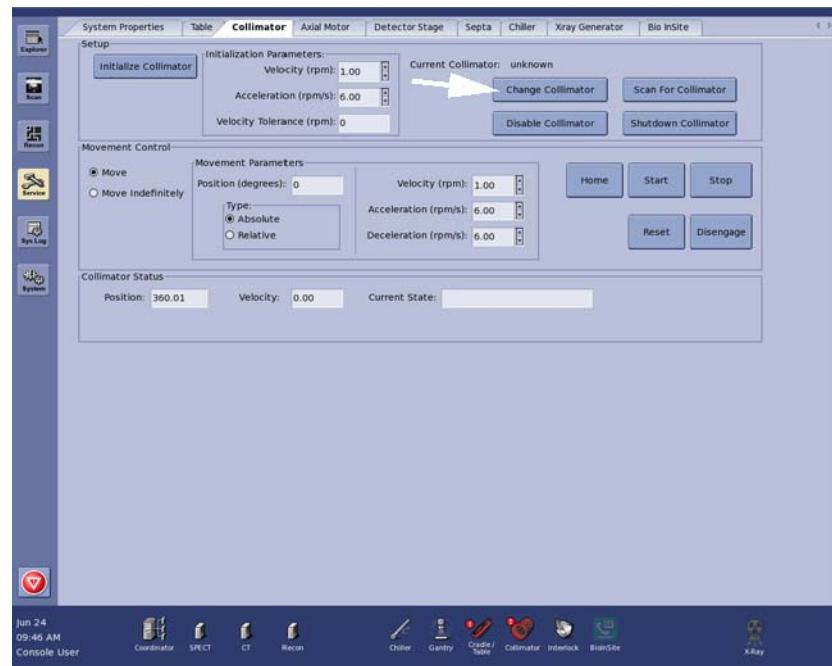

Figure 7-9
Enter the Service pages on the Console, click the Collimator tab, then Change Collimator (Figure 7-9). A dialog box appears, warning the user that the septa and table are about to move. If the Yes button is clicked, this will release the collimator mounting plate lock.
- 2.) A dialog box informs the user that collimator change is permitted. Click OK. If the box does not appear, there is a system error. Move the mouse over the Cradle/Table icon (bottom row in Figure 7-9) and check for a Table error.